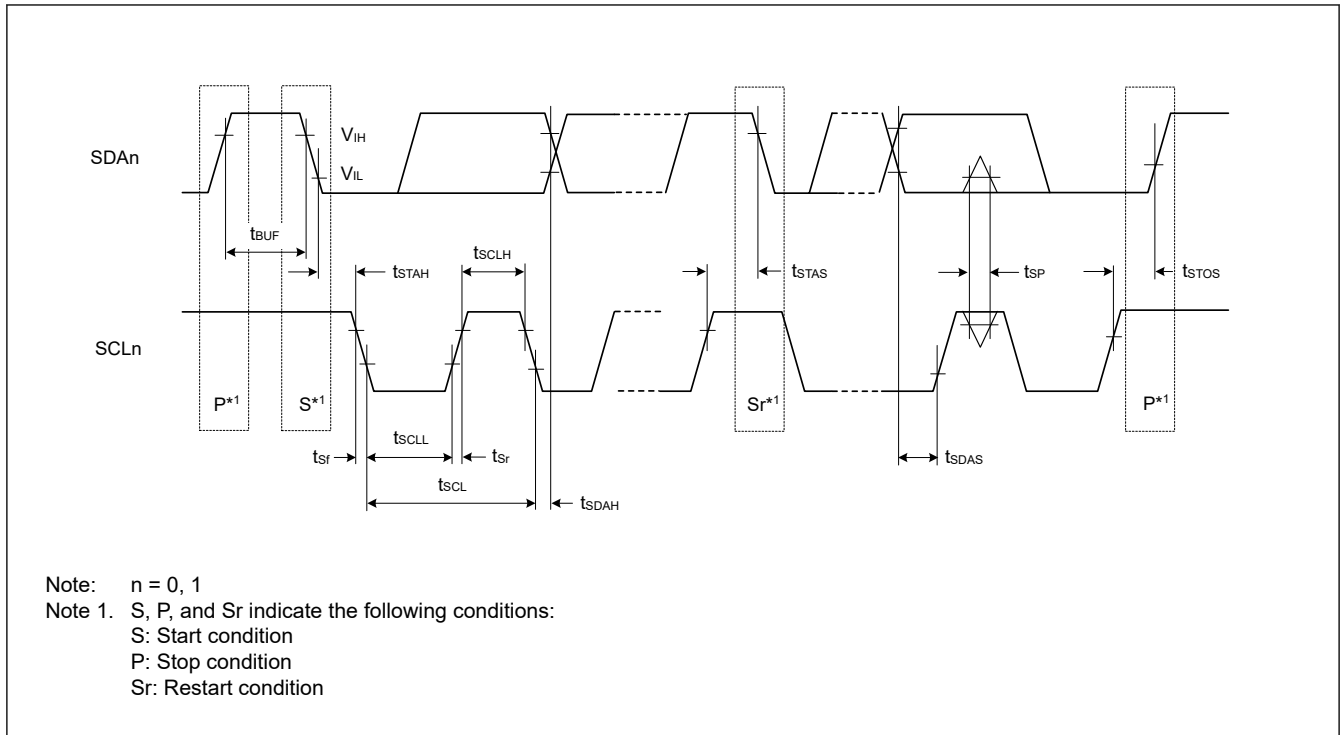

Figure 2.43 I²C bus interface input/output timing
| IIC (Standard mode, SMBus) ICFER.FMPE = 0 | SCL input cycle time | t_{SCL} | $6 (12) \times t_{IICcyc} + 1300$ | — | ns | Figure 2.43 |
| IIC (Fast mode) | SCL input cycle time | t_{SCL} | $6 (12) \times t_{IICcyc} + 600$ | — | ns | Figure 2.43 |
| IIC (Fast-mode+) ICFER.FMPE = 1 | SCL input cycle time | t_{SCL} | $6 (12) \times t_{IICcyc} + 240$ | — | ns | Figure 2.43 |